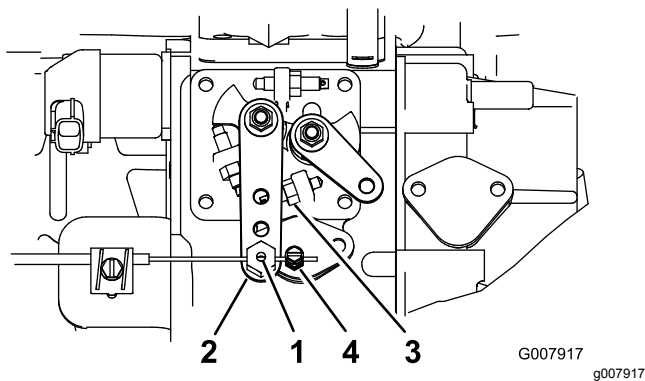

Figure 50
2. Loosen the throttle-cable connector, on the throttle cable, next to the injection-pump lever (Figure 50).
3. Hold the injection-pump-lever arm against the high idle stop (Figure 50).